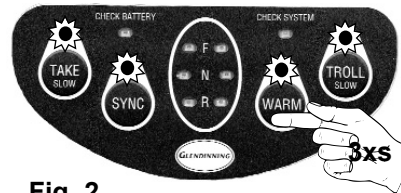

Fig. 2
STEP 3 — Press and release the WARM button three (3) times. All the LEDs will start flashing indicating that you have entered the configuration mode (Fig. 2).